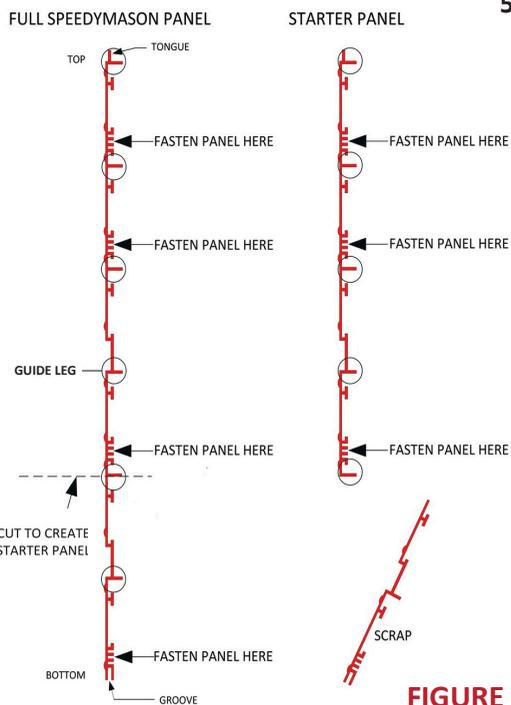

FIGURE 2
E. Fasten Brick Lath on the fastening strips. **(See figure 2)**
- D. Create a starter panel. **(See figure 2)**
- H. Fasten Block Lath on the fastener strips. **(See figure 2)**